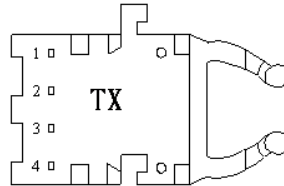

Figure 3 Transmitter interface and pin diagram
- Transmitter interface and pin definition as shown in Figure 3: